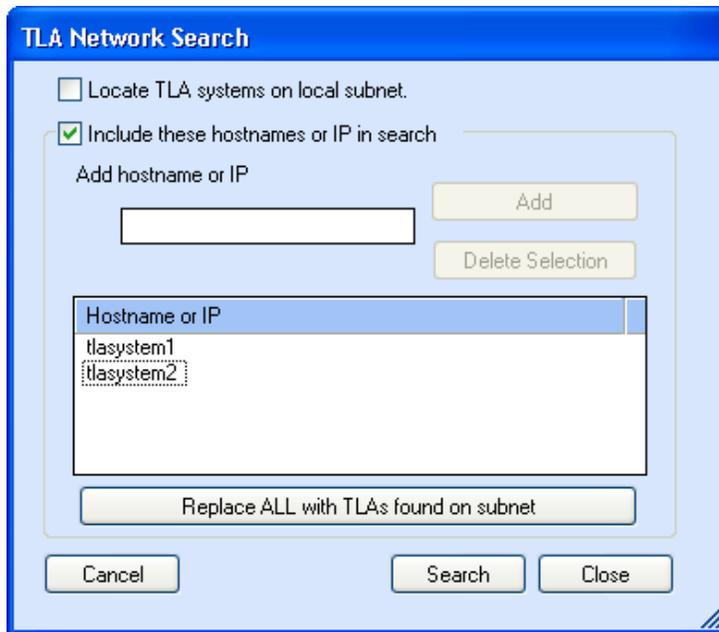

Figure 26: TLA Network Search dialog box
10. Click  (Search icon) to open the TLA Network Search dialog box. The search for instruments returns with the name of the mainframes that are connected to the master mainframe. (See Figure 26.)